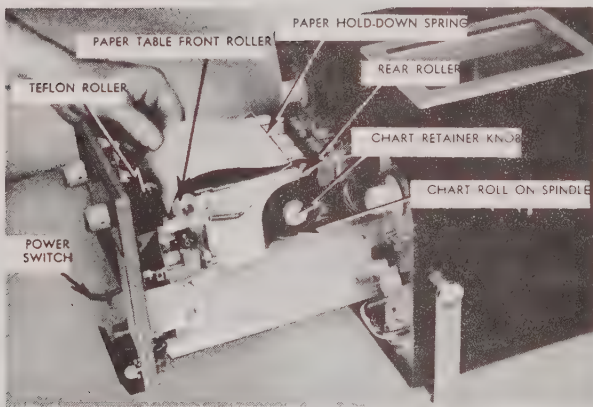
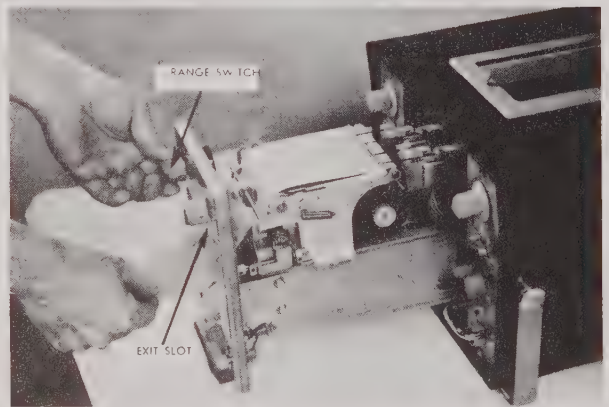
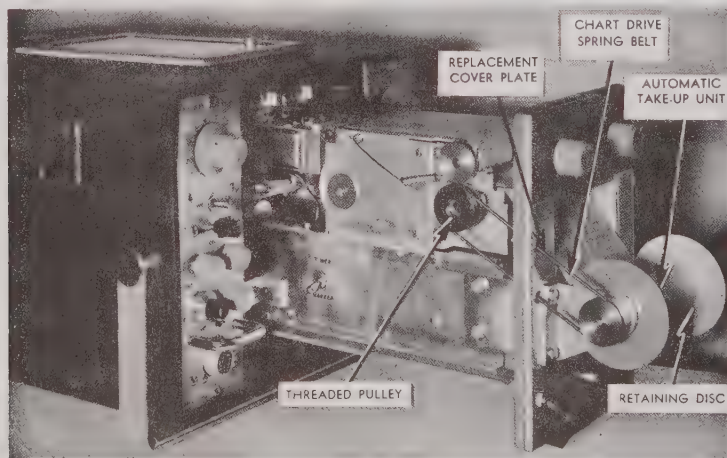

Fig. 2-5B Chart Paper Installation
Fig. 2-5C Threading Paper Electrically
Fig. 2-5D Automatic Paper Take-Up Unit
4. Position new chart paper roll on spindle as shown in Figure 2-5B. This will assure the correct orientation of the recording chart. Replace Chart Retainer Knob.
5. Feed the free end of the chart paper up over the rear roller on the paper table (Figure 2-5B).
6. Lift the paper hold-down spring until it just clears the screws on either side of the paper table (Figure 2-5B). Slide the paper forward and under the hold-down spring then return the spring to its normal (down) position (Figure 2-5C).
7. Turn the equipment master (power) switch OFF. Turn preamplifiers' signal controls OFF. Set chart speed RANGE switch to OFF and MM/SEC control to 5. Turn Power Switch ON. With chart paper held between Teflon Roller and Paper Table Front Roller, put RANGE switch to LO (Figure 2-5C). The paper will now feed between the rollers. Guide the paper through the exit slot and onto Automatic Take-Up Unit (when so equipped). (See Figure 2-5D.)
6. If your "Meterite" is equipped with an Automatic Chart Take-Up Unit (Figure 2-5D), take the following steps. If not so equipped, replace the paper with a new roll according to the instructions in paragraph 2.7.1, above.